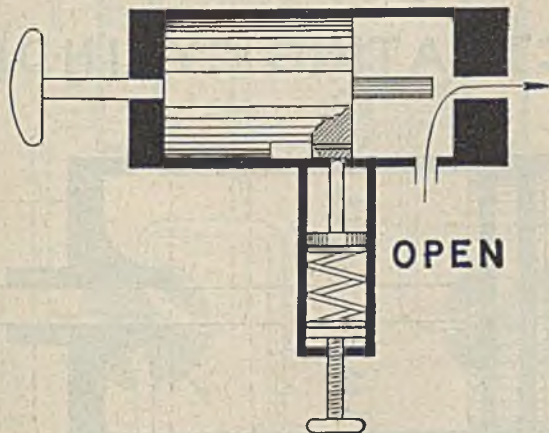

Fig. 40.—Elementary power control valve in **open** position.
**Ans.** When the valve is in closed position, the output of the power pump is directed into the system building up pressure to actuate the mechanism. Pressure also develops this excess pressure, is communicated to the lock pin through the bleed passage and pushes down the pin as in fig. 40. Since the pressure also acts on the piston, the latter moves toward the knob end of the cylinder and opens the valve to outlet.